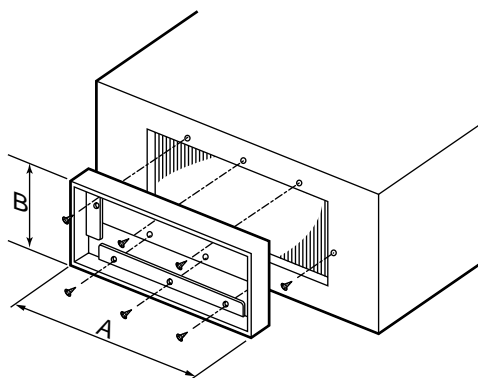

Fig. 1
- ① Using 6 screws, mount the flange to the supply air port of the indoor unit. (Fig. 1)
- ② Make the square duct according to inner dimension of the flange.  $A \times B$ .